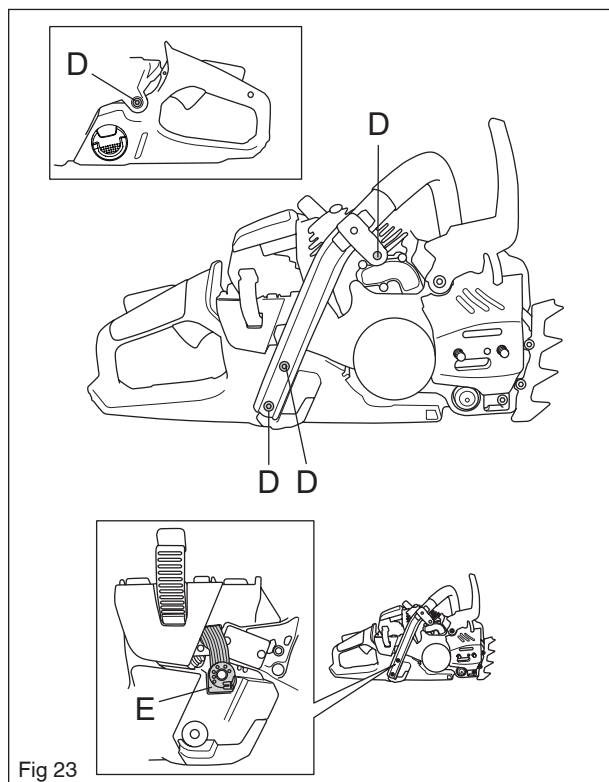

Fig 23
2. Loosen screws D and the movement limiter E as outlined in figure 23. Loosen the ignition cable.